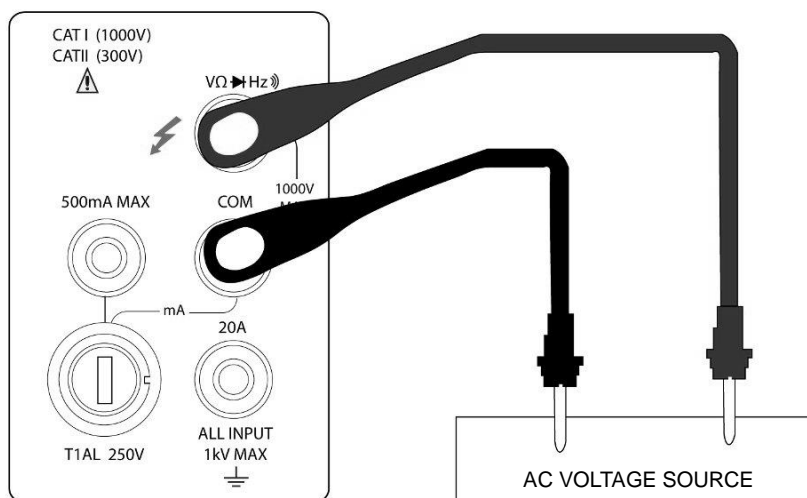

Figure 3-4 Frequency and Period Measurements
3. Connect test leads to the source as shown in Figure 3-4: